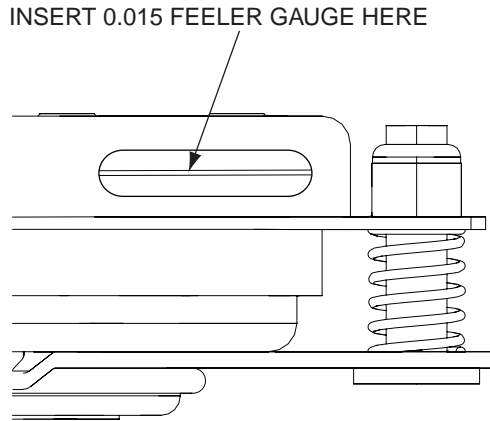

Figure 6-4. Clutch Air Gap Adjustment
2. Place a 0.015 feeler gauge in the slot between the rotor and the armature. See Figure 6-4.